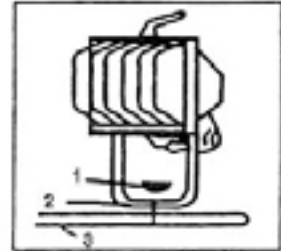

Fig 1
- 2- Mount each of the two light fixtures to the crossbar as shown in Fig.1
- A. Put a washer between the U bracket of the light fixture and the crossbar to allow the light fixture to turn without scratching the cross bar as shown in Fig.1